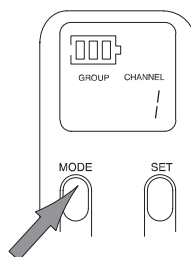

FIGURE 26
3. Press the transmitter MODE button again to select the new Group setting and move to the Channel selection mode. The Group number will disappear, and only the Channel number will be visible. Refer to Figure 26.